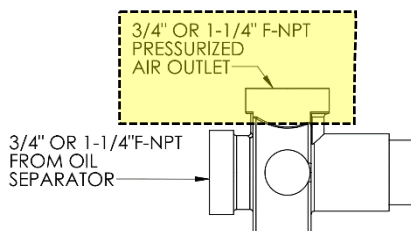

Figure 15 – Air Outlet
- The end user may choose and install their preferred outlet fitting onto the pressurised air outlet fitting on the side of the minimum pressure check valve (Figure 15). The outlet is a female NPT, VMAC recommends attaching a MNPT to MJIC to connect to a hose with JIC swivel fittings. VR90 and lower air flow units use #12/ 3/4" sized fittings and VR130 and larger air flow units use #16/1" sized fittings.